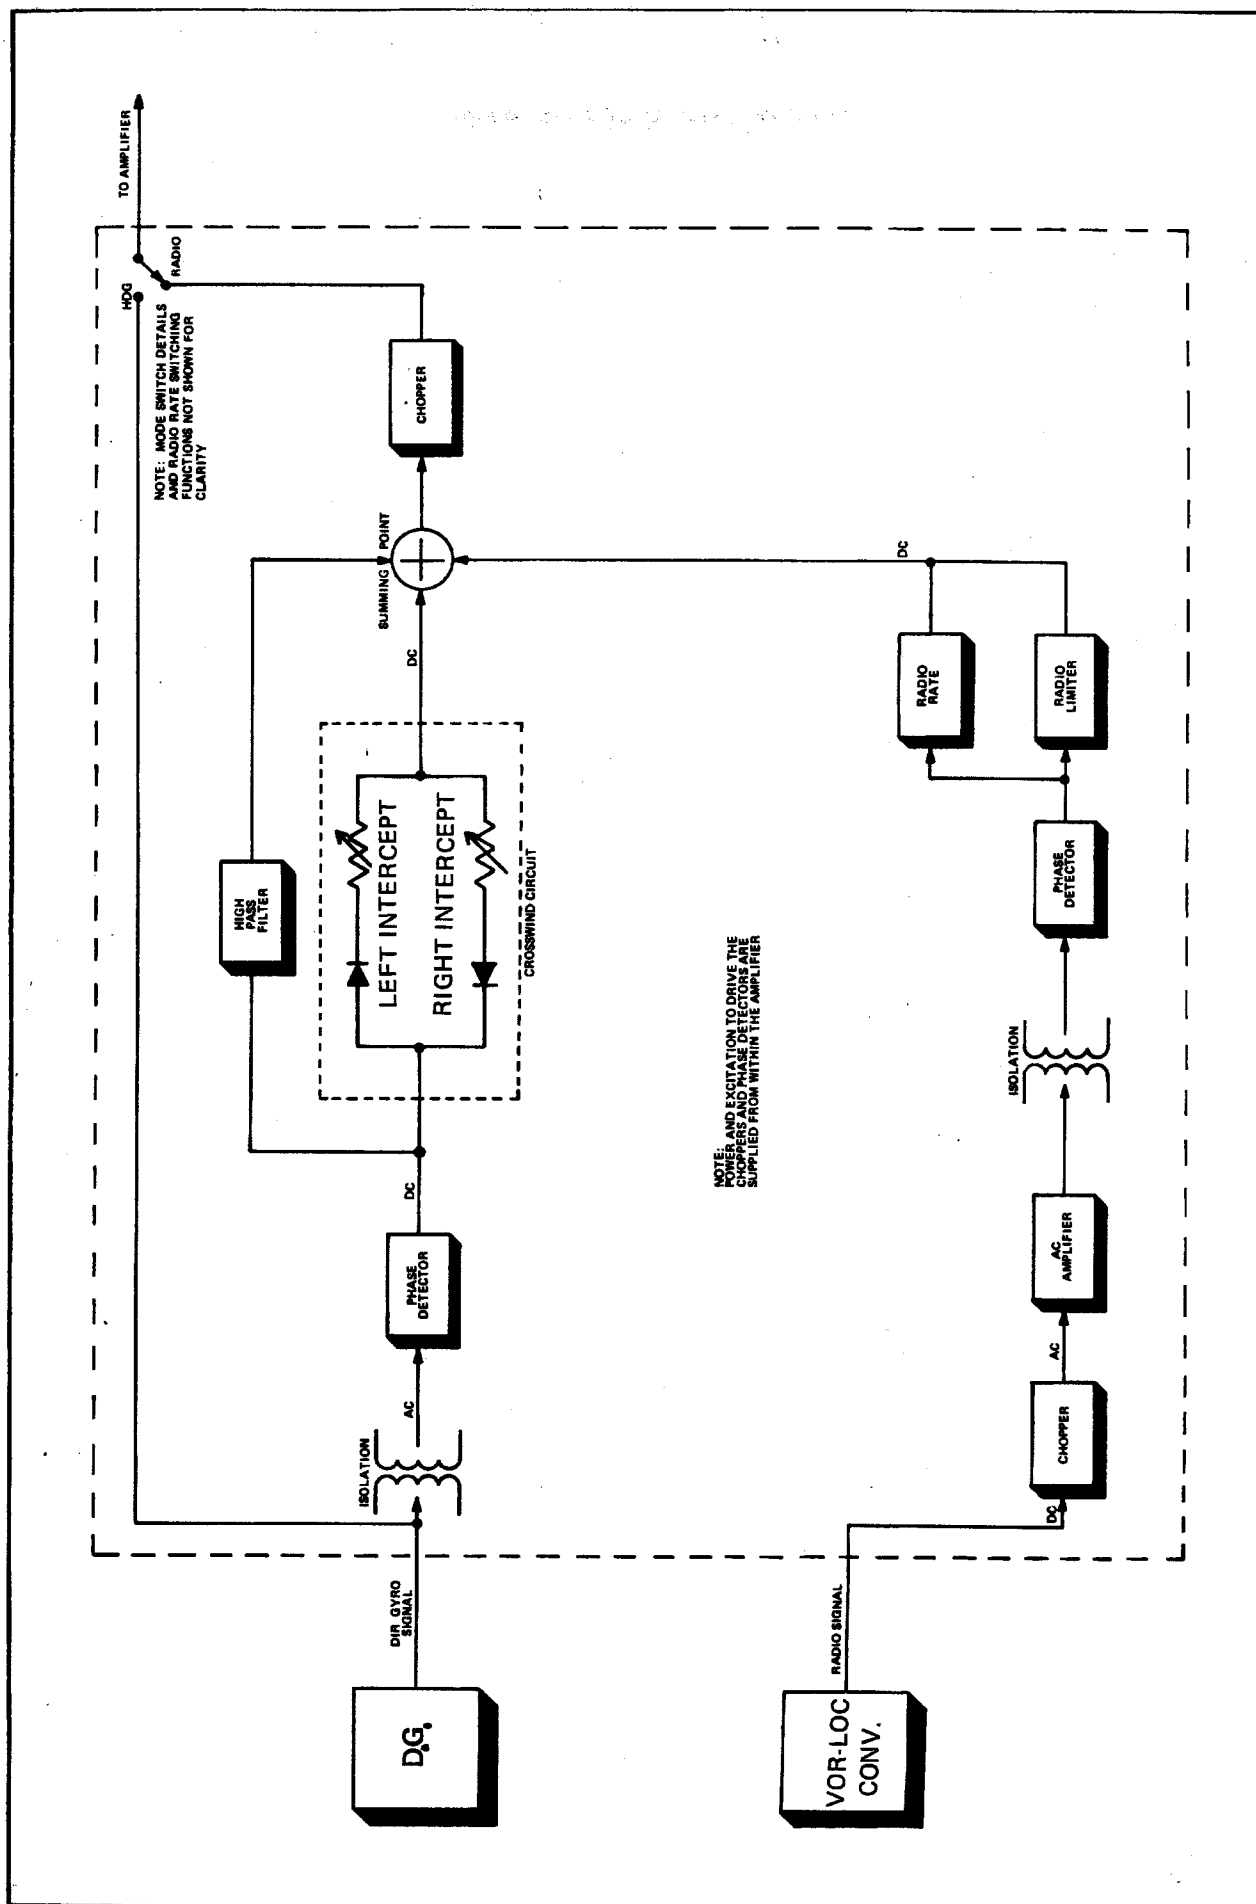

FIGURE 1-11
- 1.3.2 Signal Processing** - In Fig. 1-11, the radio coupler is broken down into block diagram form to show how the radio and heading (D.G.) signals are mixed.
The D.G. signal is transformer coupled (for isolation purposes) in the radio coupler and changed into a DC voltage by the phase detector. From the phase detector the signal is applied to two diodes and two potentiometers in parallel. This provides the necessary circuitry for establishing a crosswind capability (Ref. Fig. 1-11). The circuit is adjusted in such a manner that any D.G. signal which corresponds to 15° (approximately) of heading deviation or greater is passed. Assume that the aircraft is flying on a heading of 90° and the pilot wishes to track a radial on a course of 130° . He would set his omni course selector to 130° and set the D.G. course indicator to match. This will generate a signal from the D.G. which will be passed through one of the diodes since the deviation at this point is 40° . This D.G. signal is mixed with the limited radio deviation signal at the summing point. Remember, the radio signal is limited to a value of 100% even though the actual deviation at this point is considerably greater. As the aircraft turns in response to the heading and radio command, the D.G. will be nulled by the limited radio signal (the radio signal is opposite in polarity to the D.G. signal). At this point the aircraft will be on a heading that will intercept the radial at a 45° angle. Since the limited radio signal corresponds to 100% of deviation, the autopilot always "thinks" it is just 100% off the selected radial. Therefore, it will always seek to intercept the radial at the same angle regardless of the actual deviation beyond 100%.